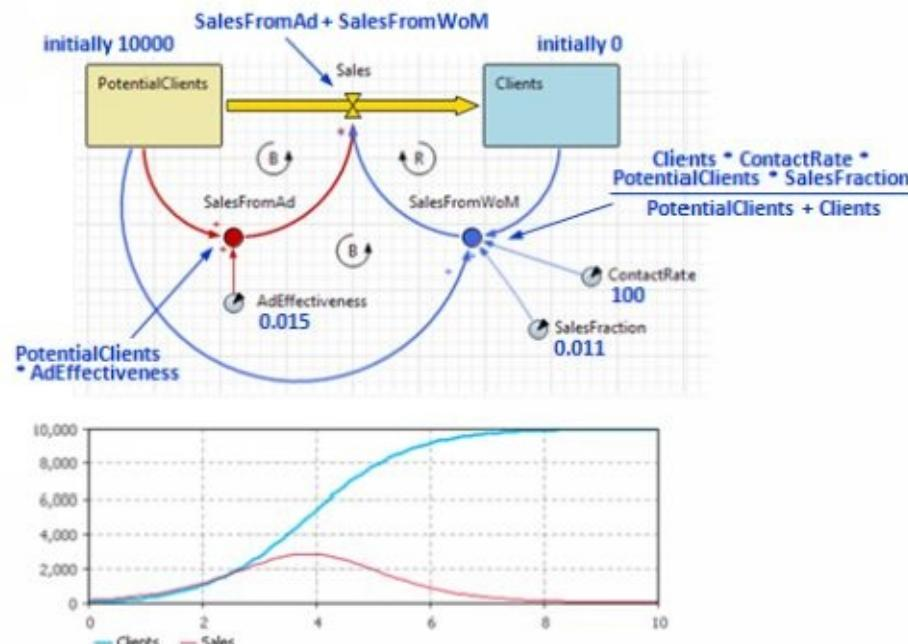

Figure 5.24 The model of new product diffusion and its behavior with the default parameters values
7. In the **Charts** page of the wizard, setup the two output charts – one for *Clients* and one for *Sales*. To do this, select **dataset** in the first table column, type the names of the charts in the second column, and enter the references to the dataset you have defined in *Main*, see Figure 5.24. Click **Finish**.
4. In the **Charts** page of the wizard setup the two output charts – one for *Clients* and one for *Sales* – in the same way you did for the compare runs experiment (see Figure 5.24). Click **Finish**.